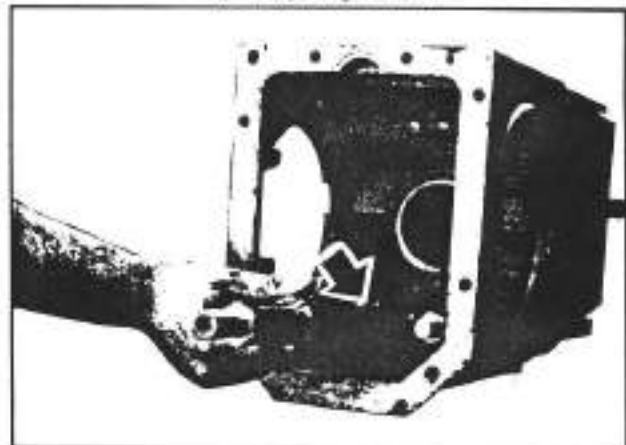
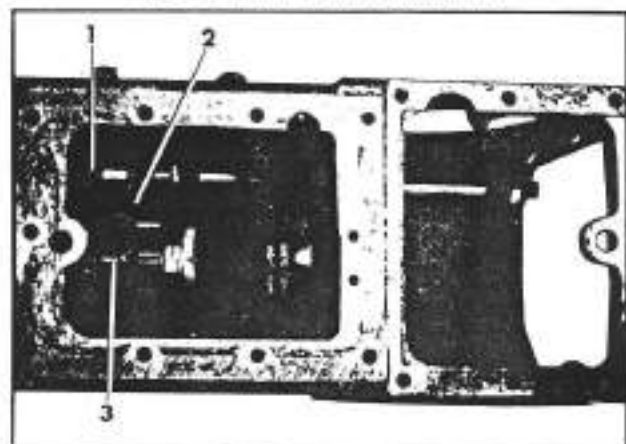
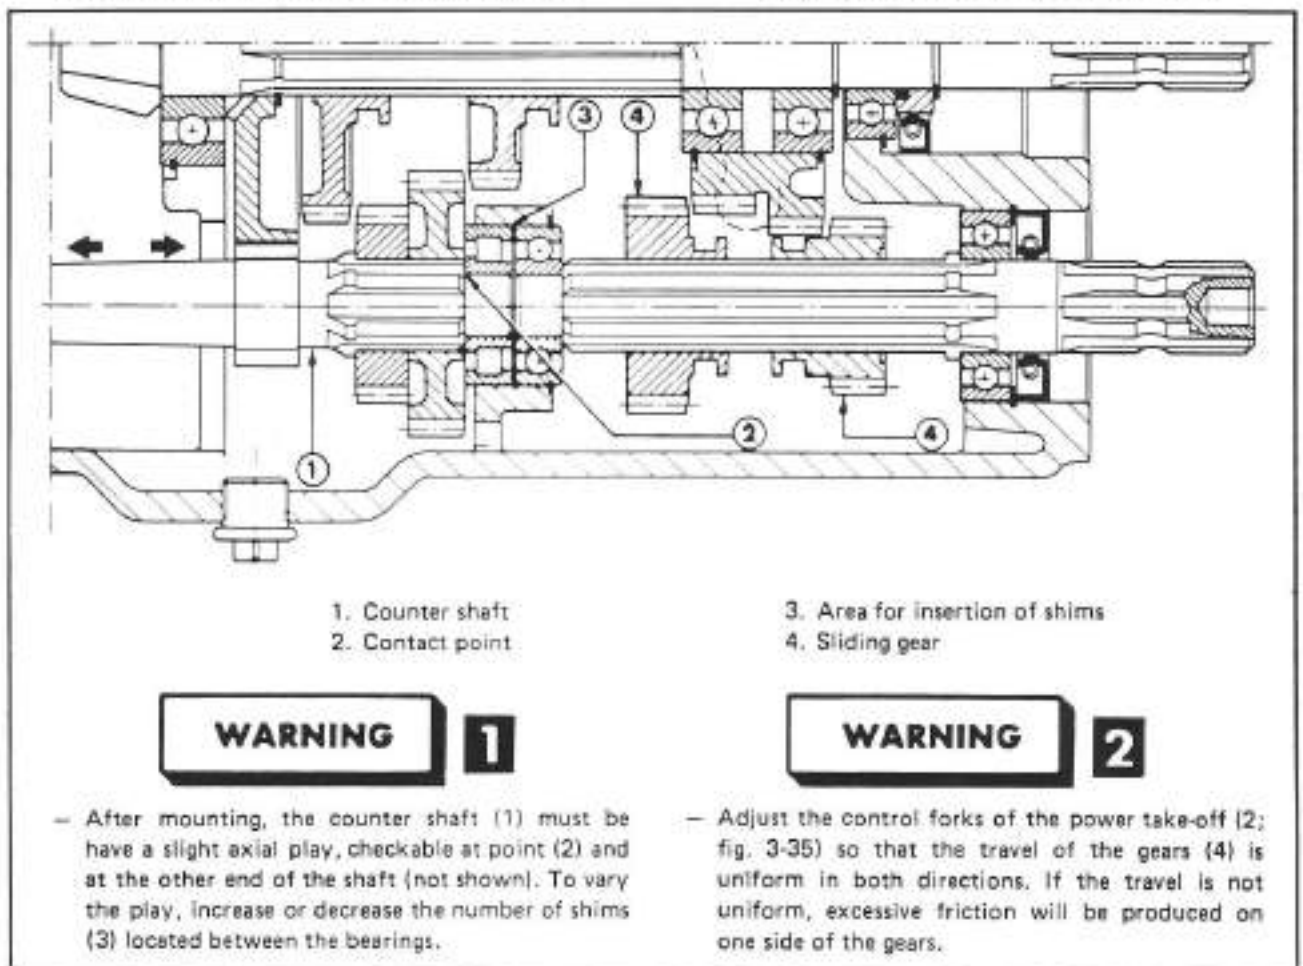

Fig. 3-34. Removal of the counter shaft
Fig. 3-35. Removal of the power take-off control rod forks
Fig. 3-38. Adjustment of the counter shaft and the control forks of the power take-off
- k. Remove the counter shaft (see figure 3-34).
- l. Unscrew the nuts (1; fig. 3-35) and remove the forks (2; fig. 3-35) of the power take-off rod on each side of the relative spacer (3; fig. 3-35).
- The counter shaft (see figure 3-34), must have a slight amount of play as indicated in figure 3-38. If such play cannot be obtained normally, it will be necessary to vary the number and/or thickness of the shims between the ball bearing and the roller bearing. (**WARNING 1**).
- Adjust the control forks (2; fig. 3-35) of the power take-off as indicated in figure 3-38. (**WARNING 2**)